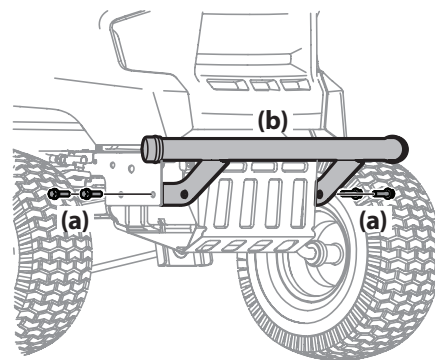

Figure 10
1. Remove the four hex screws (a) from the bumper (b). See Figure 10.
2. Position the bumper brackets to the **inside** of the tractor's frame and secure it in place with the four hex screws (a). Torque to 332-405 in-lbs (37.5-45.75 N-m). See Figure 10.